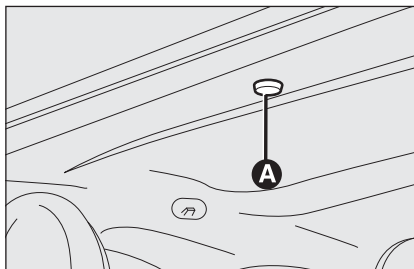

fig. 42
- Remove the protective cap **A**-fig. 42 located on the internal covering, behind the sun visor;